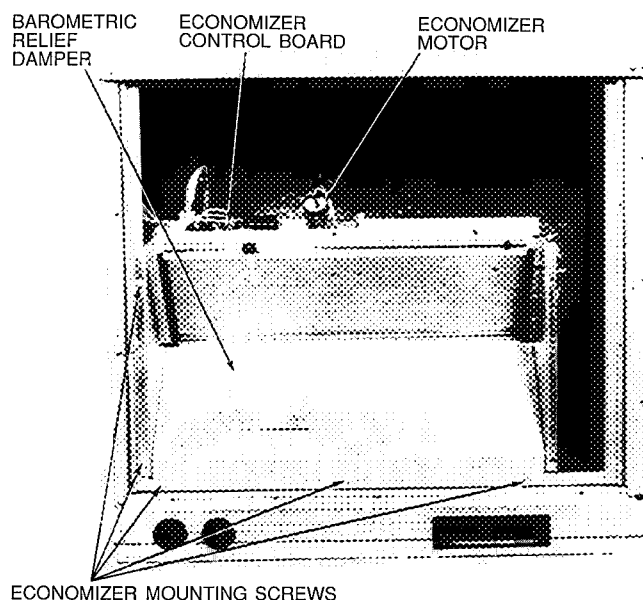

Fig. 17 – Economizer Installed in Unit
5. Remove screws securing barometric relief damper, if desired. See Fig. 17 and 18.
7. Insert economizer plug from the wiring harness (supplied with the unit) into the wiring plug on economizer control board. See Fig. 17 and 18.